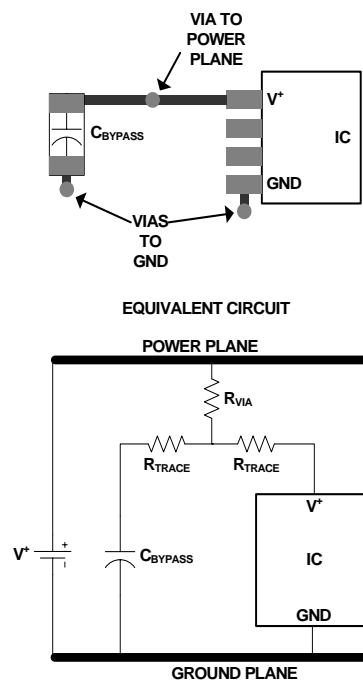
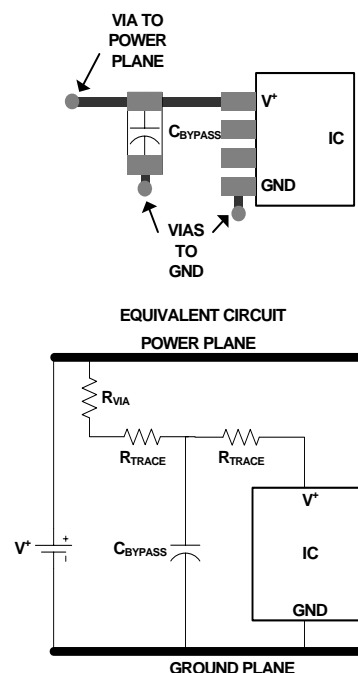

FIGURE 12. SUB-OPTIMAL BYPASS CAPACITOR LAYOUT
FIGURE 13. OPTIMAL (“T”) BYPASS CAPACITOR LAYOUT
- Ideally each supply should be bypassed to ground with a $0.1\mu\text{F}$ capacitor. Minimize trace length and vias to minimize inductance and maximize noise rejection. Figure 12 demonstrates a common but non-ideal PCB layout and its equivalent circuit. The additional trace resistance between the bypass capacitor and the power supply/IC reduces its effectiveness. Figure 13 demonstrates a better layout. In this case there is still series trace resistance (it is impossible to completely eliminate it), but now it is being put to good use, as part of a “T” filter, attenuating supply noise before it gets to the IC, and reducing the amount of IC-generated noise that gets
injected into the supply. Follow the good supply bypassing rules shown in Figure 13 to the extent possible.